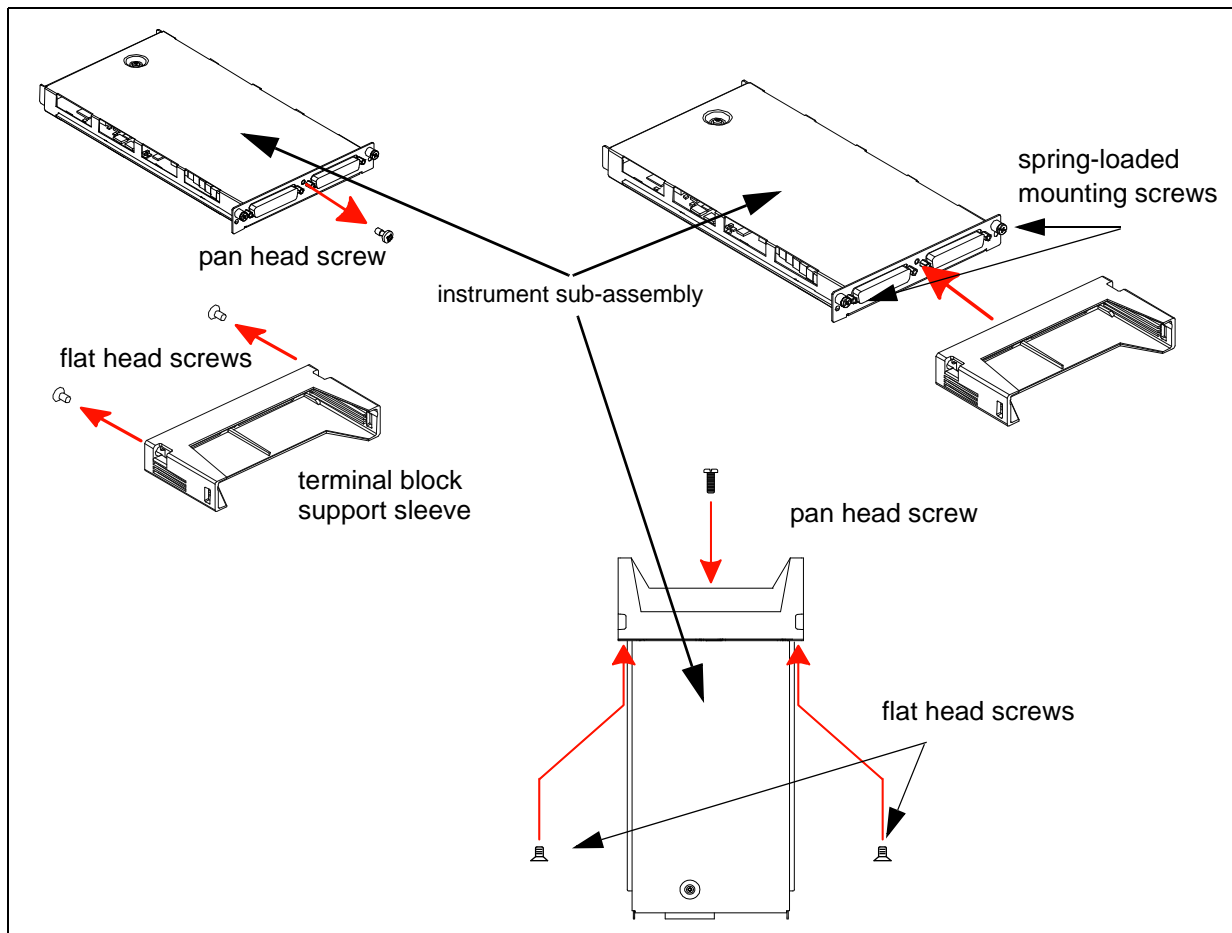

Figure 1-5. Connecting the Terminal Block Support Sleeve.
4. Install the second L4400 instrument (if present) in the shelf area adjacent to the first instrument. If only one instrument is installed, install a filler panel on the front edge of the unused area. Insert two M4x8 flat head screws (item 1) upward through the bottom of the shelf and into the panel.
6. For instruments that have accompanying terminal blocks, partially remove the instrument sub-assembly from the instrument (carrier) by loosening the spring-loaded mounting screws (Figure 1-5). Remove the support sleeve from the terminal block. Locate and remove the flat head screws from the sleeve and remove the pan head screw from between the instrument's D-sub connectors (Figure 1-5). Connect the sleeve to the instrument using the flat head and pan head screws as shown. Reconnect the sub-assembly.